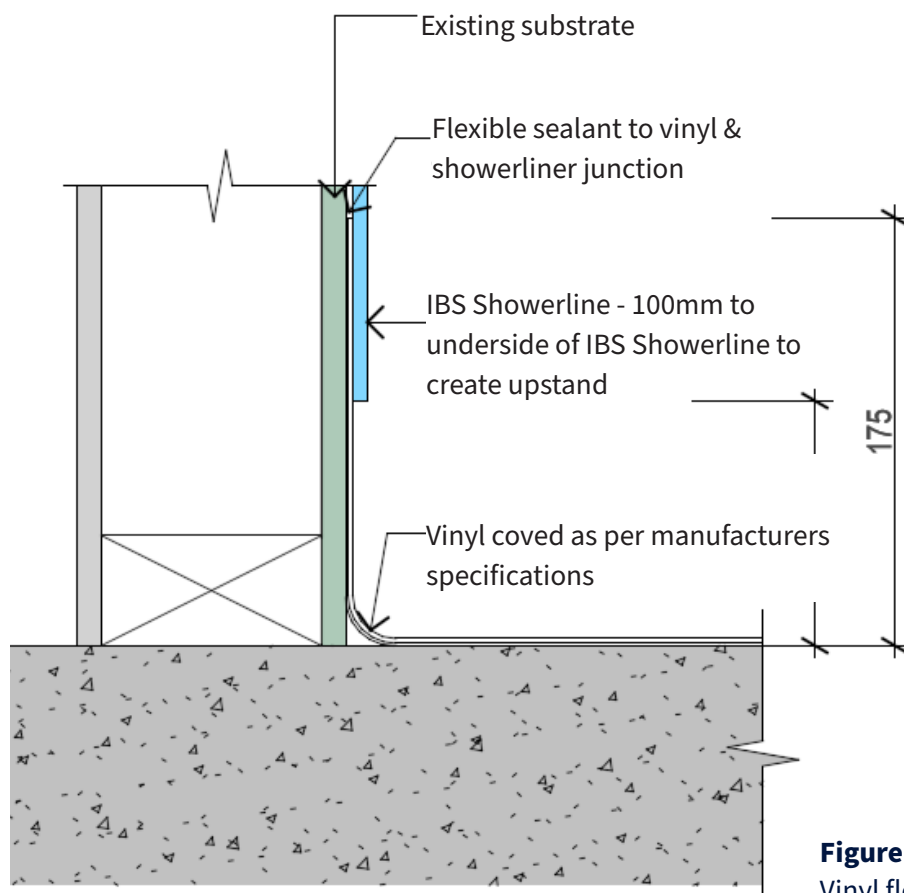

Figure 14
- A 100mm upstand is included, doubling the 50mm requirement as per figure 14.